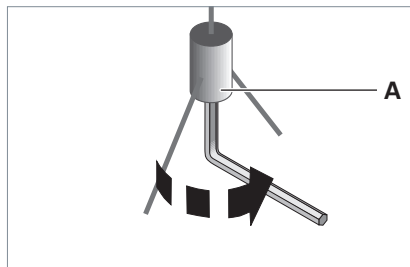

Fig. 9: Aligning the luminaire.
- ▶ To align the luminaire, loosen screw **A**, see Fig. 9.